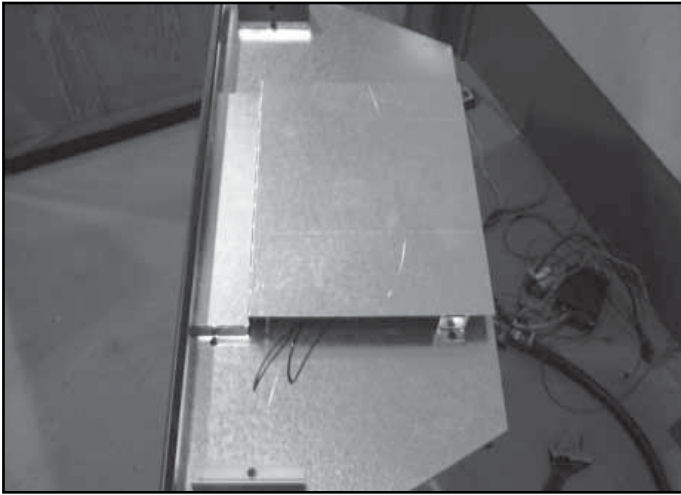

Figure 9.2 Top Heat Shield
- Locate top heat shield (Figure 9.2).